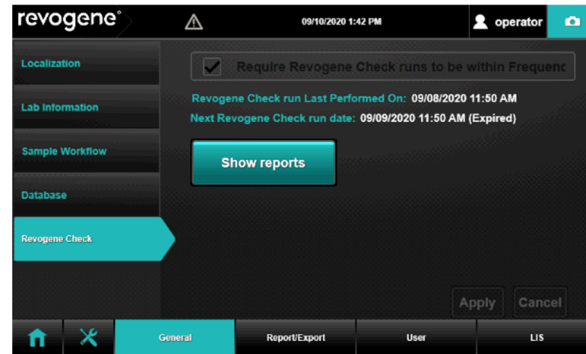

Figure 3. Revogene Check Settings
- If the <Show Revogene Check Menu> is chosen, tap the <Show reports> button (**Figure 3**) to consult the pdf report file.